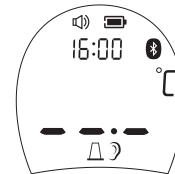
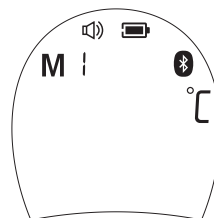

Figure 2
Figure 7
- Press the *Test Button*, The display is activated to show all segments. After self-checking Figure 2 appears on the display screen with beeps, so you can start a new measurement. If error messages appears, it means the thermometer is not ready for measurement.
When the thermometer has been turned on and followed by Figure 2/4 or finished testing, press and hold the **Power Button** for three seconds. The letter MEM will appear at the bottom of the display. (See Figure 7)